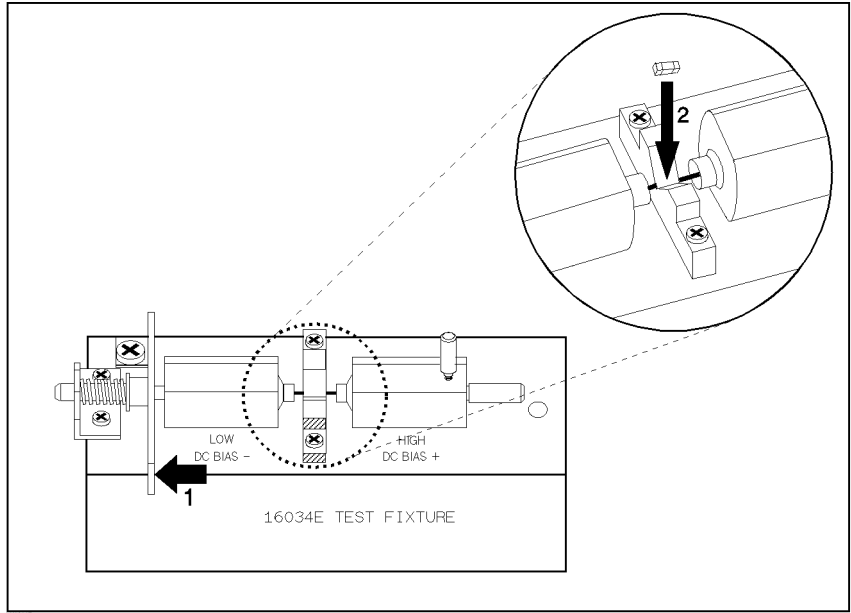

Figure 3-8. Connecting DUT to the 16034E
- Place the DUT on the 16034E's measurement block, as shown in Figure 3-8.